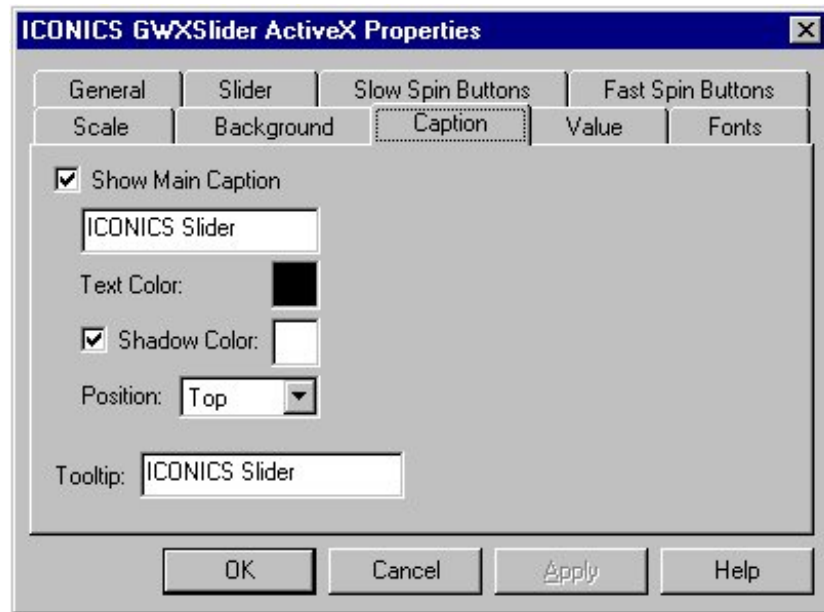

Figure 17-10: GWXSlider ActiveX Properties Dialog Box: Caption Tab
2. Select the Caption tab (Figure 17-10).